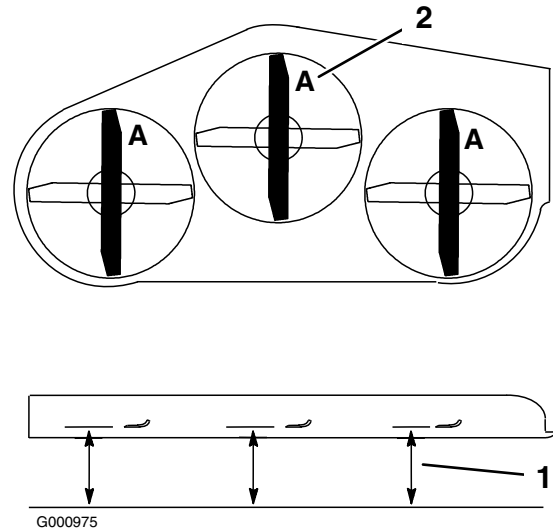
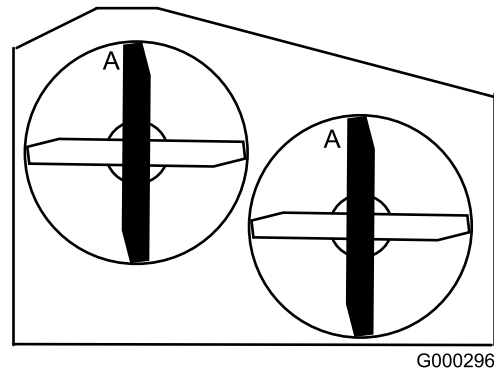

Figure 73
Figure 74
3. With the machine on level surface, position one blade front-to-rear. Measure at A and from level surface to the cutting edge of the blade tips (Figure 73). For 36 inch mower decks use Figure 74.